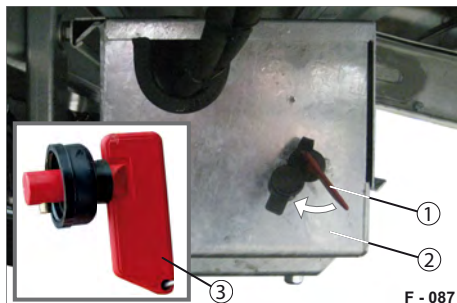

Fig. 37 Electro-hydraulic unit activated
- ▶ Insert the socket key (Fig. 37/3).
- ▶ Turn the main power switch (Fig. 37/1) to ON.